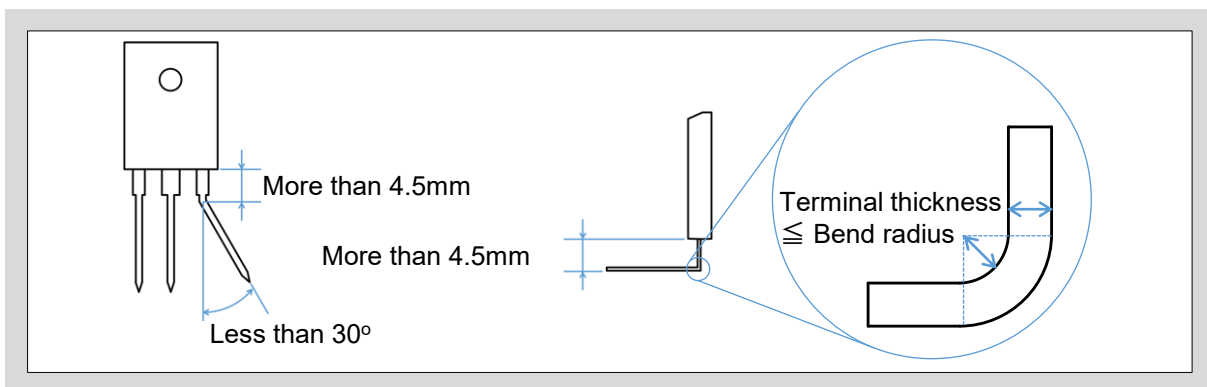

Fig. 3-7 Precautions for terminal forming
- For lateral (in-plane) bends, bend at a point at least 4.5 mm away from the package, and limit the bend angle to 30° maximum (see Figure 3-7).
- Ensure the bend radius (R) is equal to or greater than the terminal thickness.